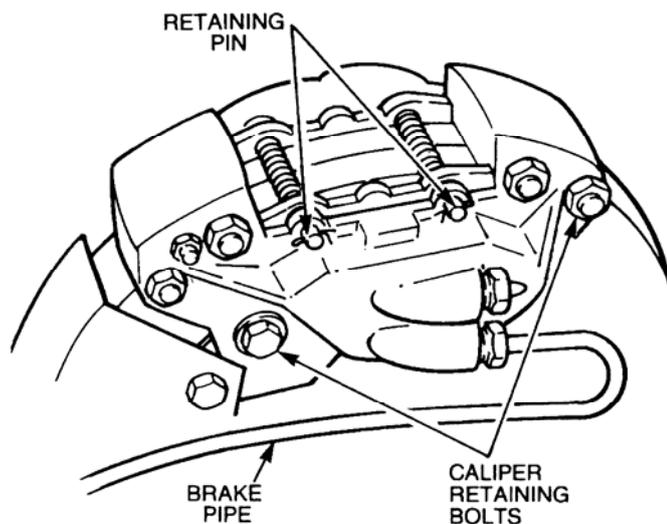

Figure 3 Brake Caliper Removal
- i. Remove the disc pad retaining pins and springs from the caliper (refer Figure 3).